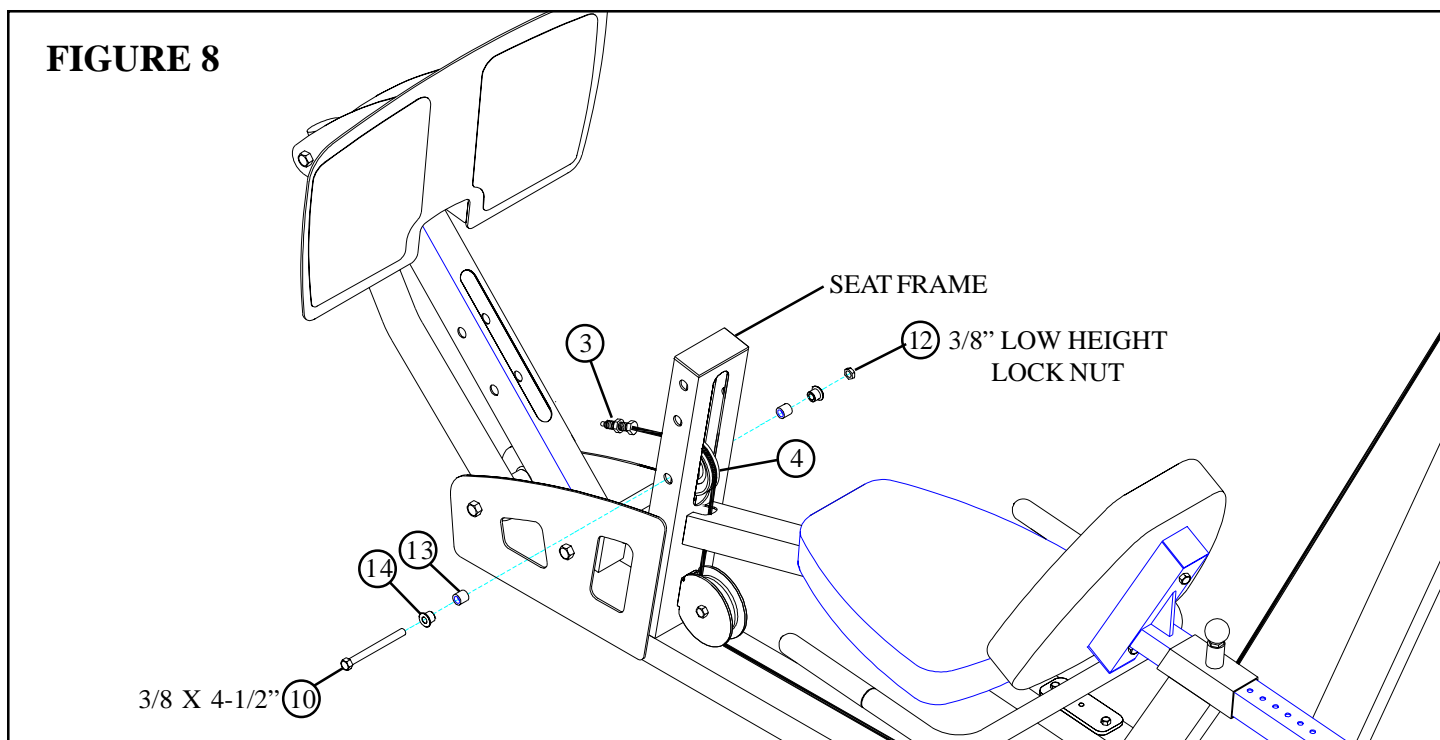

**FIGURE 7**
- Route the SHORT LEG PRESS CABLE (2) through the PULLEY PLATES as shown in FIGURE 7.
- Route the SHORT LEG PRESS CABLE (2) around one 3-1/2" PULLEY (4) and assemble the PULLEY to the PULLEY BRACKET (15) using one 3/8 X 1-3/4" BOLT (7) and one previously removed 3/8" LOCK NUT. See FIGURE 7. (Note: Loop the SHORT LEG CABLE (2) around the PULLEY prior to assembling the PULLEY to the PULLEY BRACKET.)
- Carefully route the LONG LEG PRESS CABLE (3) around one 3 (4) to the bracket on the SEAT FRAME using one 3/8 X 1-3/4" BOLT (7) and one 3/8" LOCK NUT (6) as shown in FIGURE 7. Make sure the CABLE is in the grooves of all the pulleys.